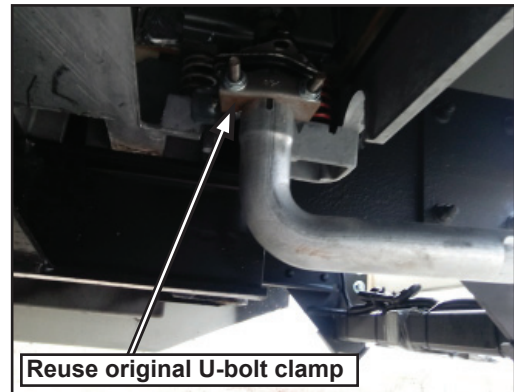

Figure 5
7. Begin reinstallation by sliding the new generator exhaust pipe onto the generator exhaust port until it is fully seated to the bottom of the flared end or is tight against the bottom of the generator. Be sure it is oriented so that it exits the rear of the vehicle under the bumper; reference Figures 5 and 6. Clamp in place with the U-bolt exhaust clamp previously removed in Step 6; carefully position the U-bolt so that the nuts can be easily tightened with a ratchet and a 1/2" deep well socket.